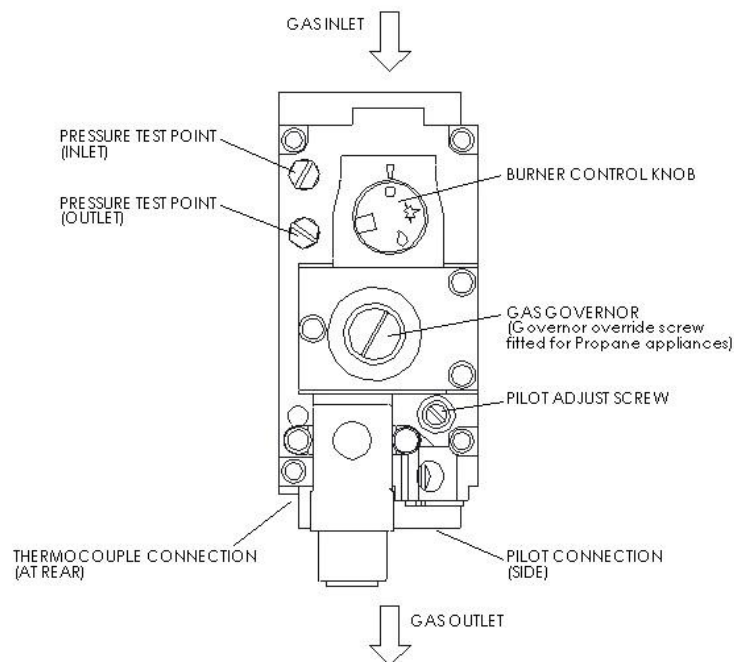

Figure 3
- d) Adjust pressure on Natural gas models by turning governor on multifunctional control, anti-clockwise to decrease pressure and clockwise to increase pressure. (See Figure 3).
- a) Two test points are provided for measuring inlet and outlet pressures as detailed in Figure 3. For convenience, a further outlet pressure test point is provided in outlet immediately below control valve.